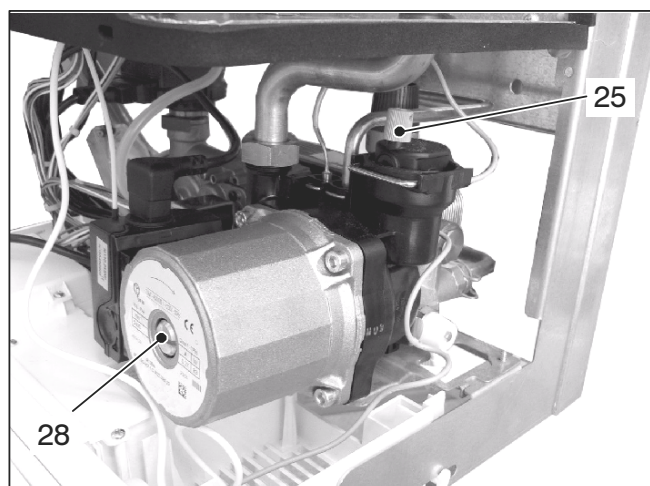

Fig. 7.3
- 4 Unscrew the cap on the automatic air purger valve 25 (Fig. 7.3) one full turn and leave open permanently.
- 8 Purge the air from the pump by unscrewing the pump plug 28 (Fig. 7.3); release the pump shaft by turning in the direction indicated by the arrow on the information plate.